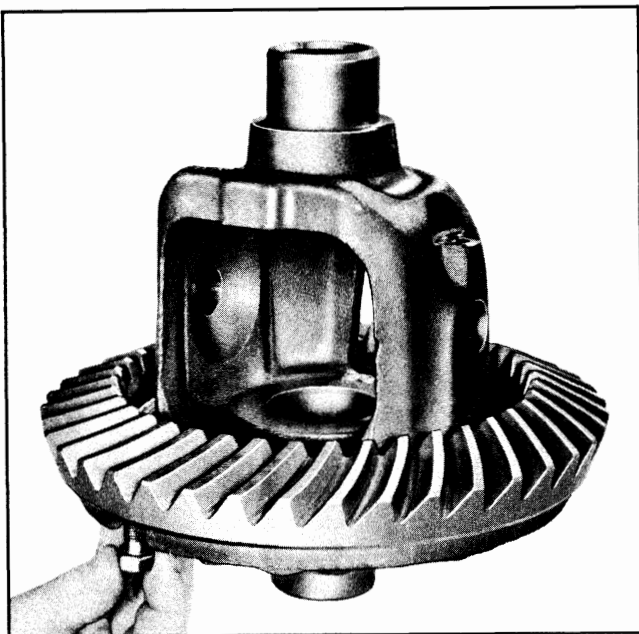

Fig. 4-55 Installing Ring Gear
3. Install ring gear attaching bolts (Fig. 4-55). Tighten all bolts evenly and alternately to 55-60 lb. ft. torque.